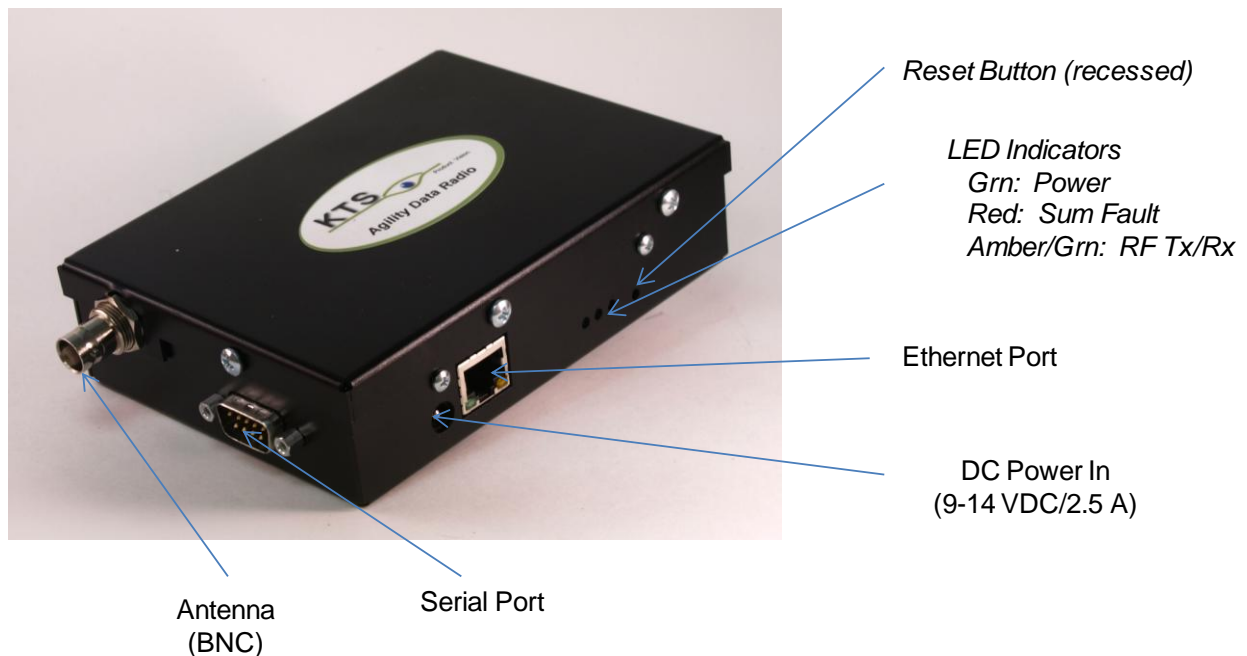

Figure 1: ADR Connections
(See Figure 1). A power cable pigtail is available (ordered separately) and can be used to connect the ADR to an existing power supply. Alternately, a separate power supply with the proper 2.5mm connector can be purchased directly from the supplier or from KTS Wireless. See the website for ordering information.
7. **The default IP address of the ADR is 192.168.1.4.** This address is automatically loaded in the Connect to field at the top. Click on the GET button at the bottom if this default address is still loaded in the ADR and not been changed. **Note: Pressing and holding the recessed Reset button (See Figure 1) for at least 12 seconds will force the radio back to its default settings. The default radio IP address is 192.168.1.4.**